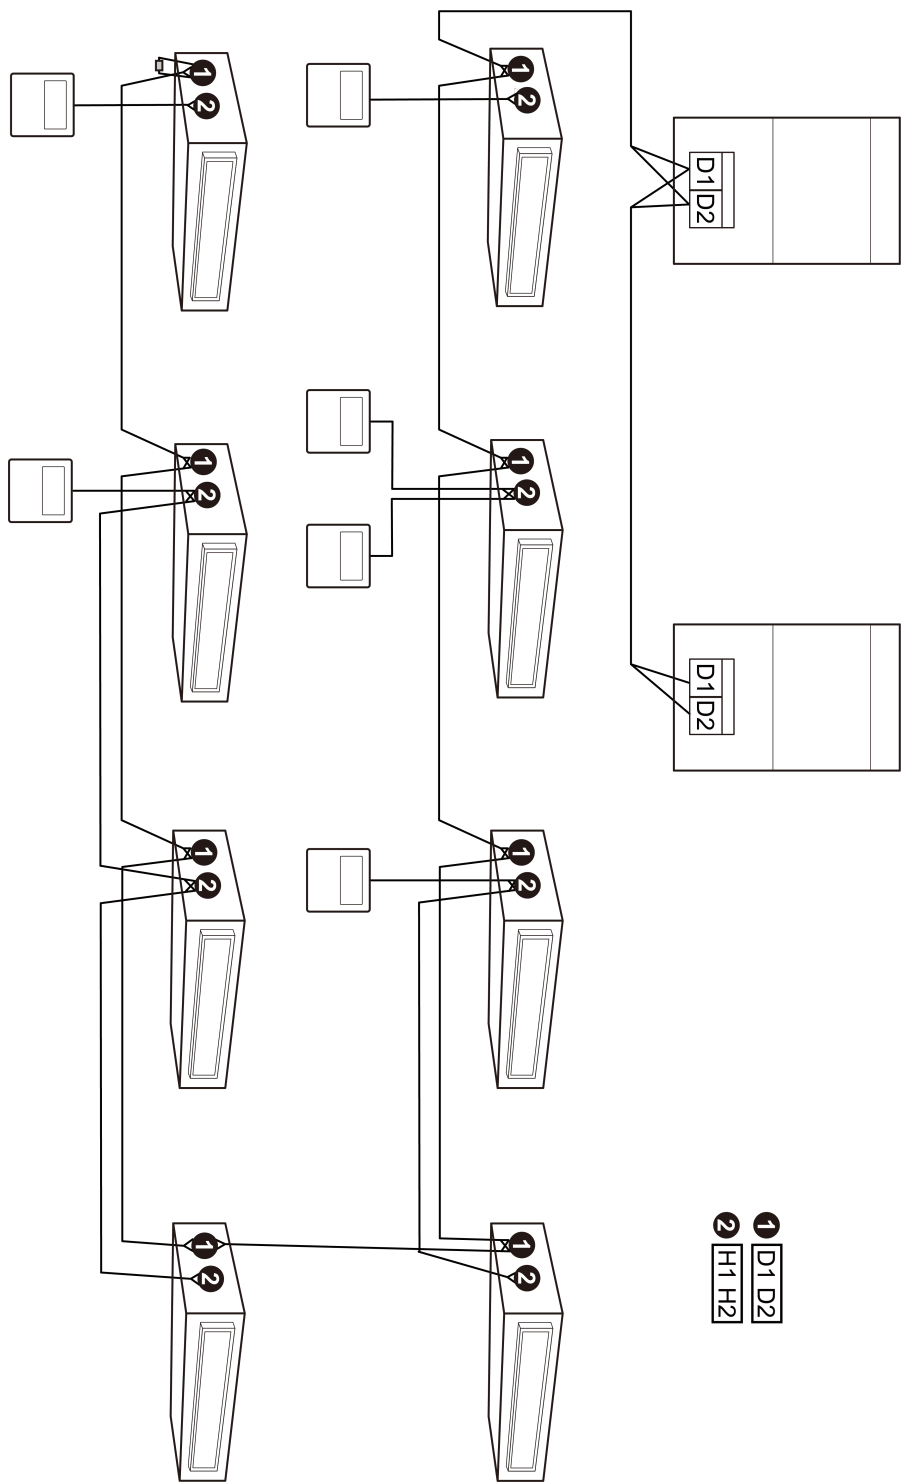

Fig 5.7
- (1) Communication between IDU and ODU is D1 while communication among each IDU is D2.
- (2) Communication between IDU and wired controller is H1, H2.
- (3) One indoor unit can connect two wired controllers (master wired controller and sub-master wired controller).
- (4) One wired controller is able to control 16 indoor units at the same time. (shown in Fig 5.7)